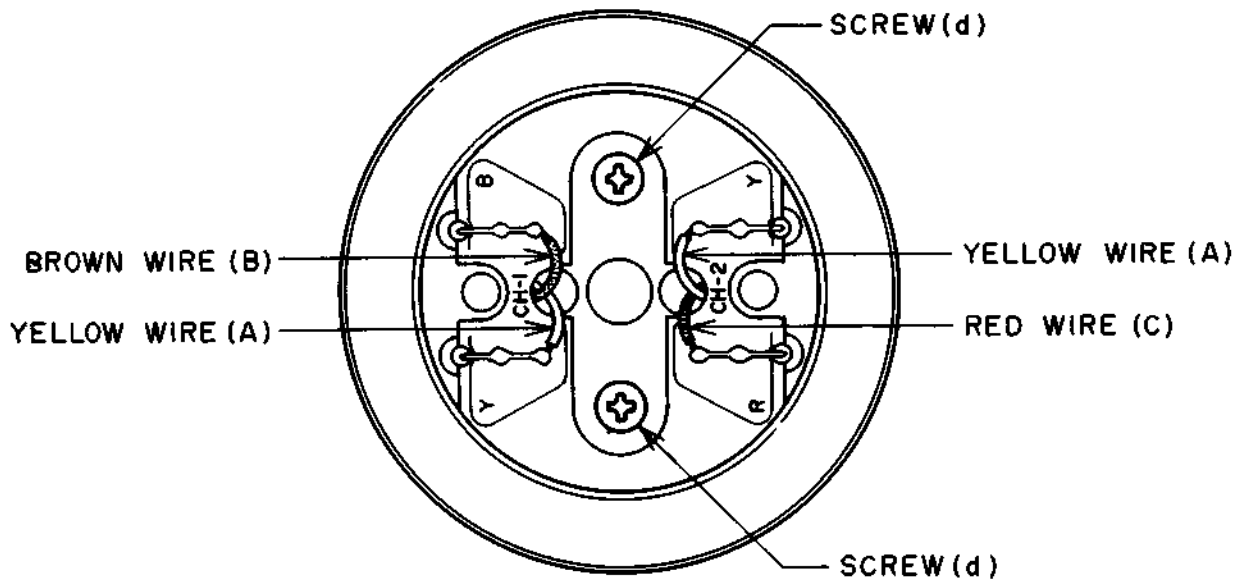

Fig. 6-1
- 1) UNSOLDER THE WIRE (A), THEN UNSOLDER THE BROWN WIRE (B) AND RED WIRE (C).
- 3) INSTALL THE NEW HEAD ASSEMBLY AND SOLDER THE WIRES AS SHOWN IN FIG. 6-1.